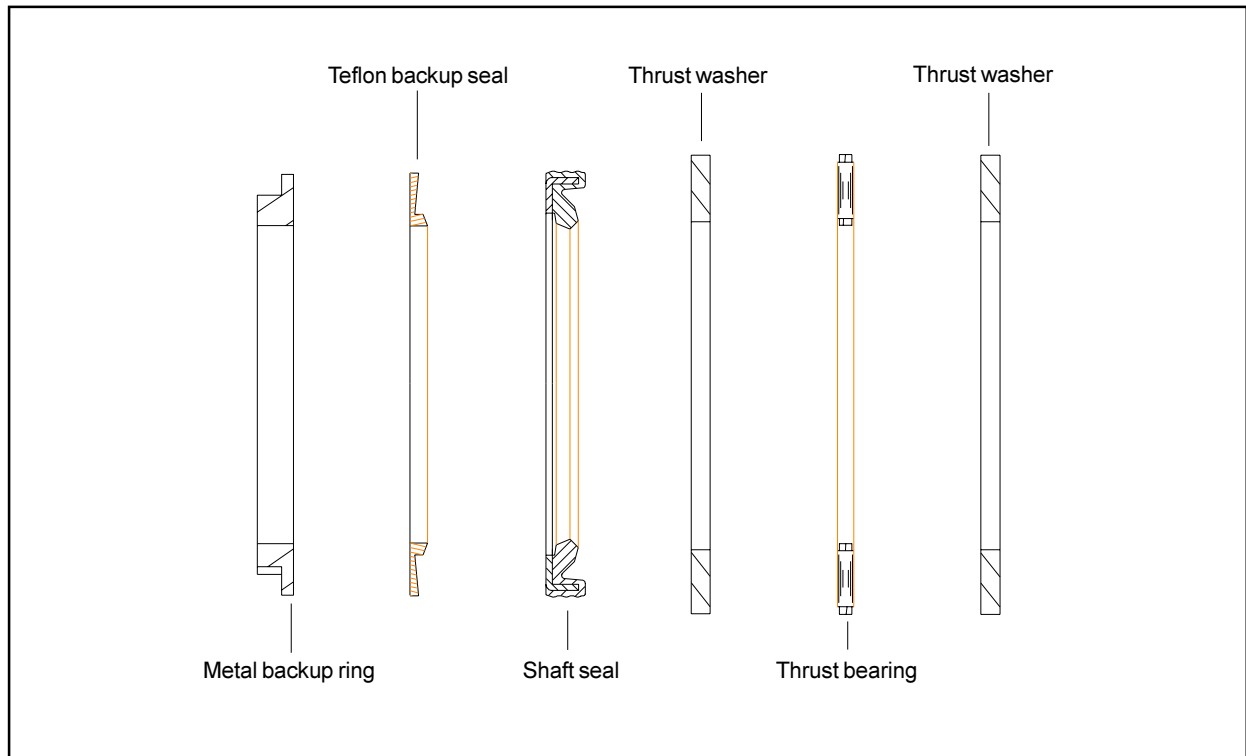

FIGURE 1
- A) Remove all shaft related components from shaft (34) (i.e. keys, nuts). To aid in reassembly of the motor, make a "V" shaped set of lines from the endcover (31) to the housing (14) using either paint or a marker. With shaft (34) facing down, secure motor in vise by clamping on to housing (14). Loosen and remove four bolts (33) holding motor assembly together. Remove endcover (31) from motor making sure not to drop endcover piston (29). Using needle nose pliers or two small screwdrivers, lift endcover piston (29) out of endcover (31). Remove white Teflon seal (11) and O-ring seal (12) from endcover piston (29) and discard. Remove the piston spring (30) from endcover (31) and lay aside.
- B) Lift commutator container and commutator (28) from motor and lay aside. Place commutator on a flat, clean surface with the seal (10) facing up. Place the tip of a small screwdriver on the seal (10) and gently tap until opposite side of seal lifts from groove. Remove seal (10) and discard.
- C) Remove manifold (27) and rotor assembly (26) from motor. Remove all seals (9) from components and discard. (**Caution - Do not allow rolls to drop from rotor assembly when removing rotor assembly from motor.**) Remove drive link (25) from motor and lay aside.
- D) Put the housing assembly into an arbor press with the shaft facing down. Lower the press to apply downward pressure on the rear housing (23) and lock the press in place. Loosen and remove the eight capscrews (24) holding the rear housing (23) to the front housing (14). Slowly release the press to allow spring pressure to push the rear housing (23) from the front housing (14). Remove the rear housing (23) and lay aside. (NOTE: Bearing (21) and spacer shim(s) (22) may fall out of rear housing (23).)
- E) Remove springs (20) from front housing (14) and lay aside. Remove housing (14) from arbor press and place on a clean, flat surface with output end of shaft (34) facing up. To remove piston (19), friction disks (17) and disk stampings (18), firmly grasp output end of shaft with a rag. Raise housing assembly a few inches above work surface and firmly strike housing assembly on work surface until piston and disks drop from housing assembly. Lay piston (19) and disks (17 & 18) aside. Remove shaft (34) from housing (14) and lay aside.
- F) Remove two thrust washers (15) and thrust bearing (16) from front housing (14) and lay aside. Pry shaft seal (3) and Teflon backup seal (2) from front housing (14) and discard. Remove metal backup ring (1) from front housing (14) and lay aside. Unless the front shaft bearing (13) is damaged, removing it from the front housing (14) is not necessary.
- H) Place shaft (34) on clean work surface with output end of shaft facing up. Place one thrust washer (15) down onto shaft followed by thrust bearing (16) and remaining thrust washer (15). Place shaft seal (3) down onto shaft (34) making sure that lip on seal faces thrust washer (15) (See Figure 1). Place Teflon backup seal (2) onto shaft making sure that lip on seal faces down and fits into recess in shaft seal (3). Place metal backup ring (1) onto shaft making sure that large O.D. side faces Teflon backup seal (2).
- I) With pilot of front housing (14) facing up, lower front housing (14) over shaft and allow front housing (14) to rest on work surface. Grasping output end of shaft (34), place housing/shaft assembly in vise with output end of shaft (34) facing down. Insert a punch down into the center of the shaft and use a hammer to gently tap downwards on the shaft (34) to seat the shaft seal (3) into the front housing (14). Remove punch. Place one disk stamping (18) over shaft O.D. splines and down into front housing (14) followed by one friction disk (17). Repeat process, alternating disks until all disks are installed into housing.